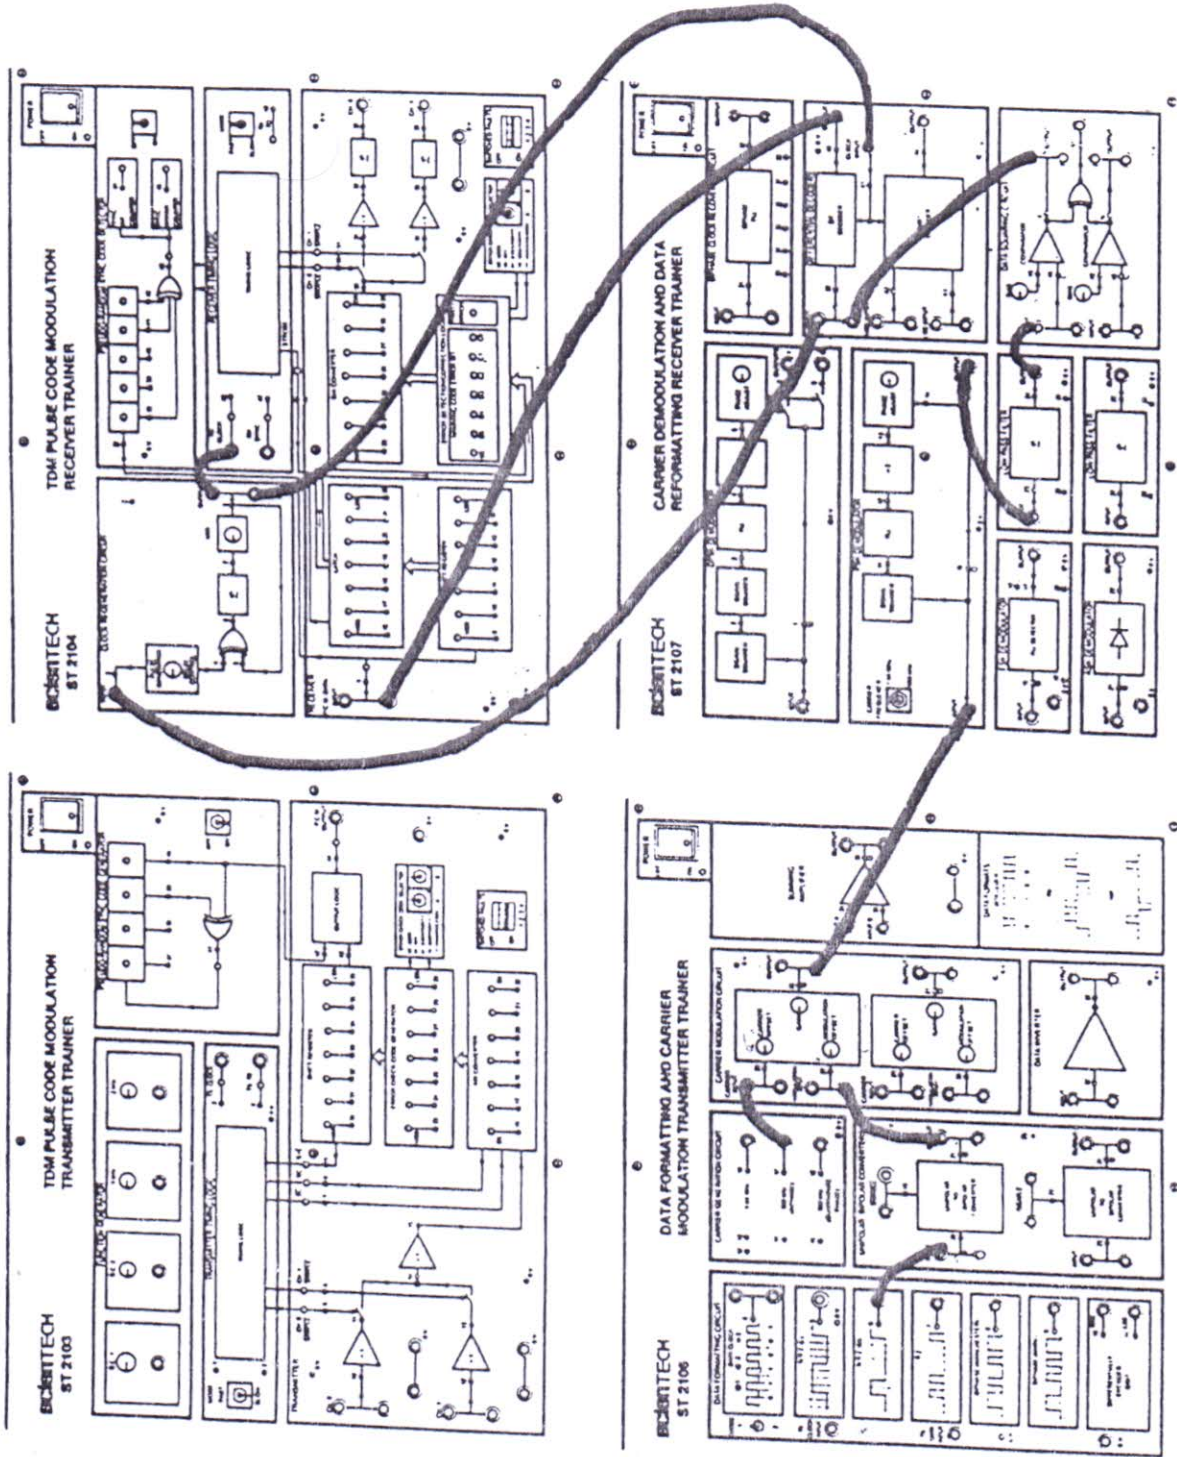

Fig. 36
(14) Switch off the power. Make the additional connections as shown in Fig 36 as follows: